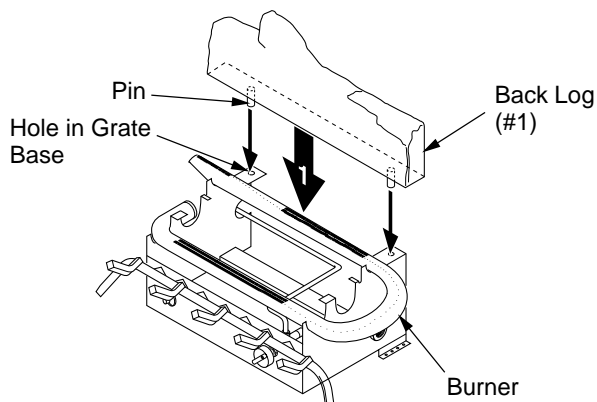

Figure 20 - Installing Back Log (#1)
1. Locate pins on the bottom of back log (#1). Slide these pins into the holes in the grate base behind the burner (see Figure 20, page 14).